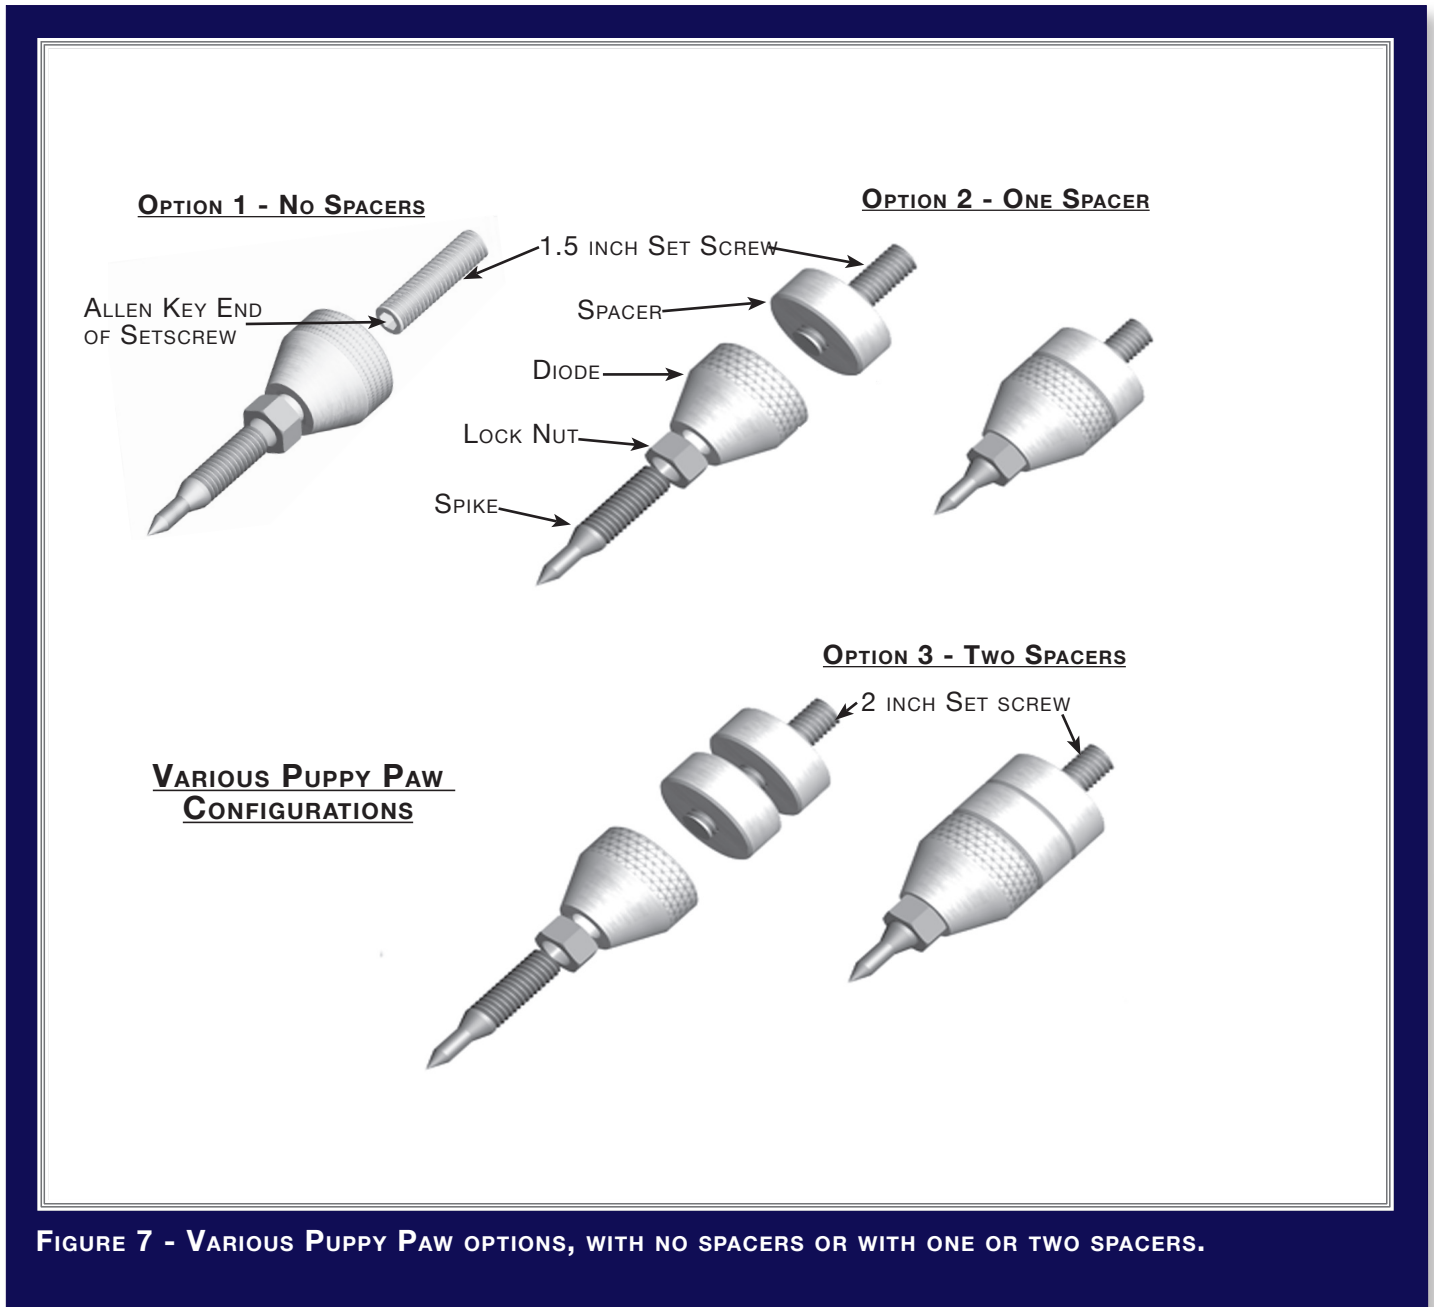

FIGURE 7 - VARIOUS PUPPY PAW OPTIONS, WITH NO SPACERS OR WITH ONE OR TWO SPACERS.
spike (see Figure 7).
4. Locate either the 1.5 inch or 2 inch (See Figure 7) set screw. The 1.5 inch is used with Paws and no spacers and with one spacer; the 2 inch is used with Paws and two spacers. Place the set screw into the other end of the diode with the Allen head toward the spike. Make sure the Allen key end is toward the spike end of the diode (See Figure 7). This will enable you to remove the bolt if necessary.